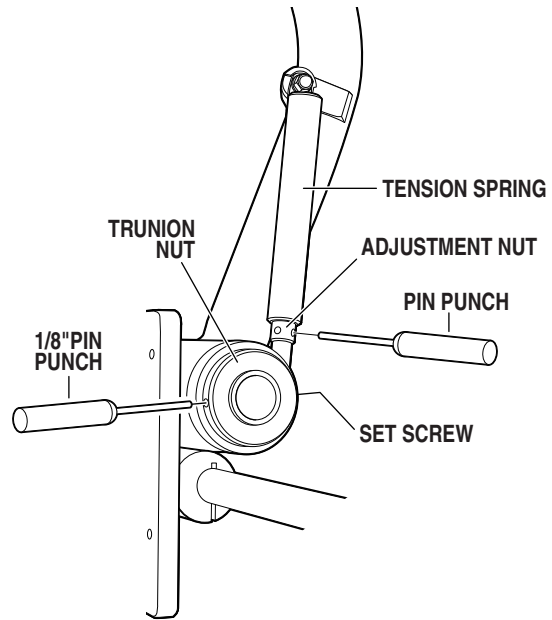

Figure 22
c. Check the adjustment for the flatscreen monitor pitch axis. The monitor should move freely yet maintain its selected position without drifting. If an adjustment is necessary, refer to figure 22 and proceed as follows: